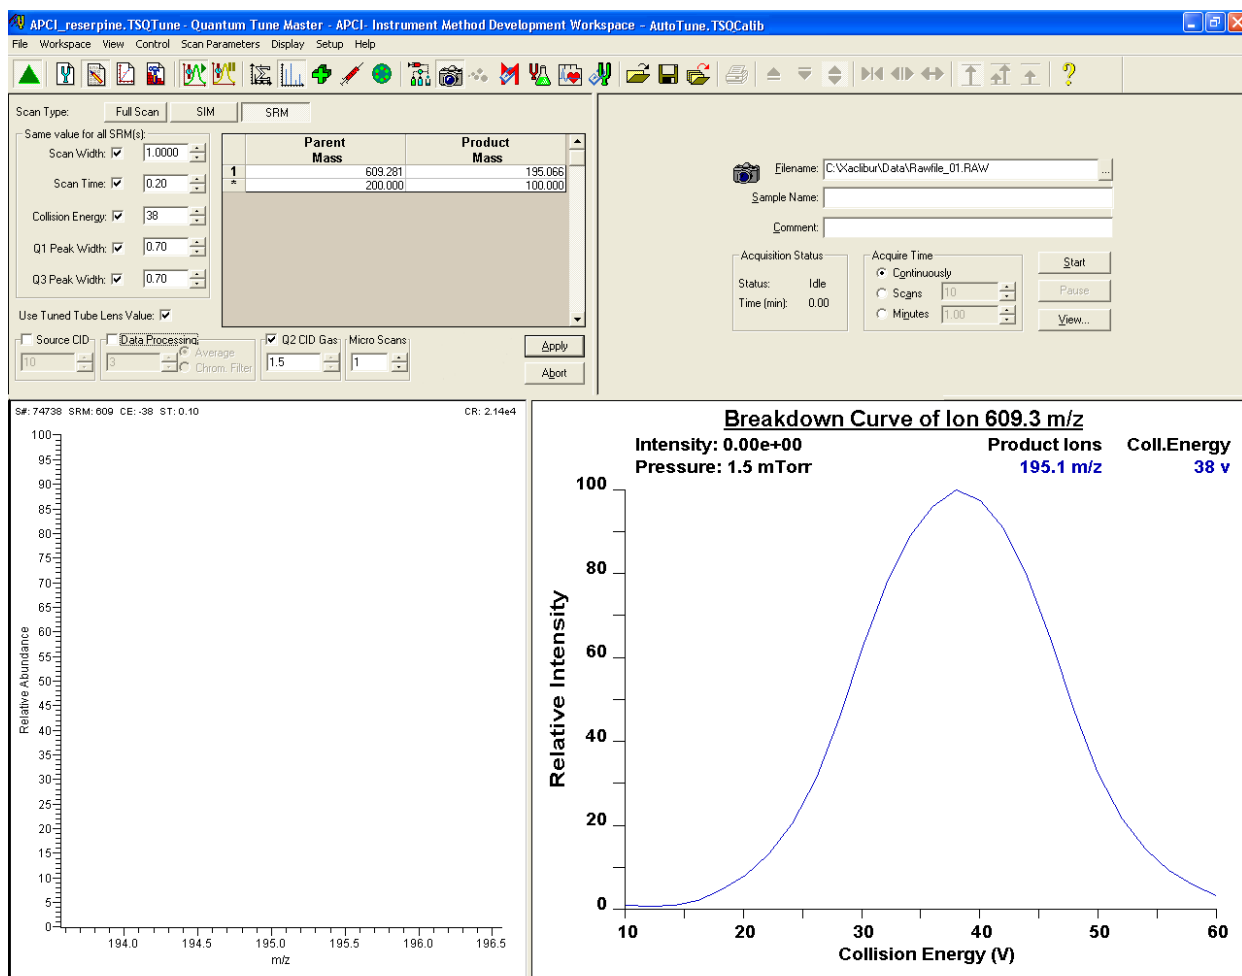

Figure 8-7. Instrument Method Development workspace
4. On the Control / Scan Mode toolbar, click on the Instrument Method Development Workspace button to open the Instrument Method Development workspace. See Figure 8-7.